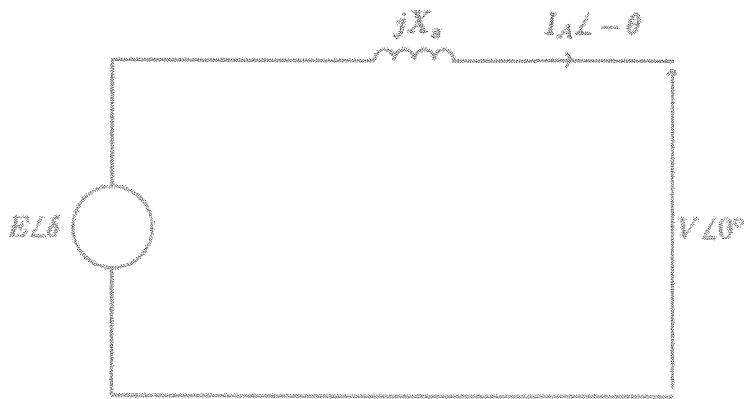

Figure Q2
- c) Per-phase equivalent circuit of a synchronous generator is shown in Figure Q2. The armature resistance of the generator is neglected.